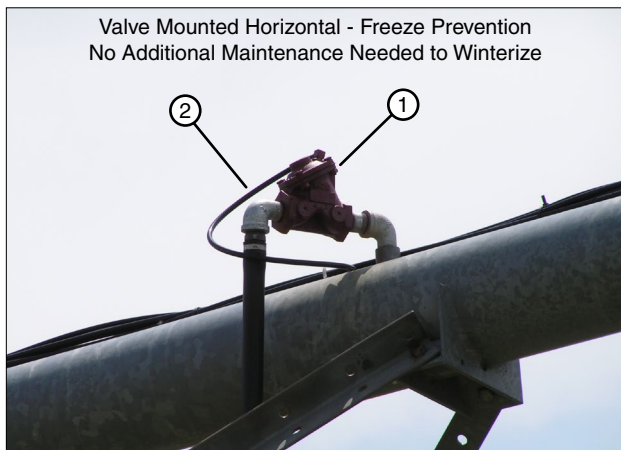

Figure 168-2 1. Aquamatic Valve
One or more Aquamatic sprinkler valves are opened and closed by one solenoid valve in the VRI tower box. A plastic tube connects each Aquamatic sprinkler valve to a solenoid valve. Refer to Figure 168-2.
A typical plumbing configuration for regions where the temperature during the winter months drops below 40°F (4°C), and/or the growing season is six months is shown in Figure 168-2.
- The valve is mounted horizontally which allows water to drain out of the valve and plumbing reducing the possibility of damage due to freezing. Refer to Figure 168-2.